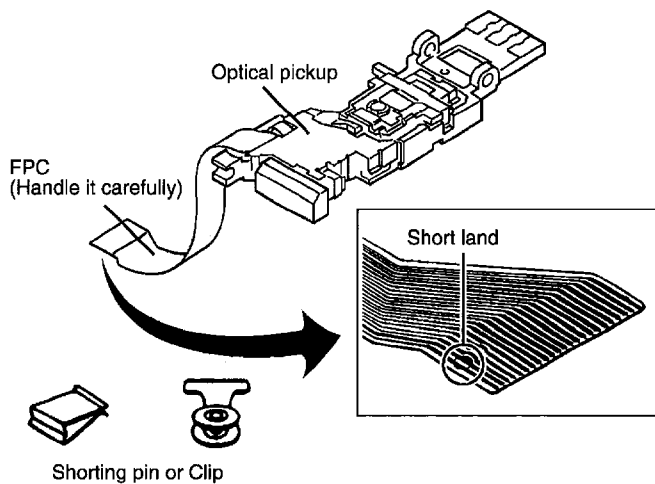

Fig. 2-1.
2. To protect the breakdown of the laser diode, an anti-static shorting pin is inserted into the flexible board (FPC board). Refer to Fig. 2-1.